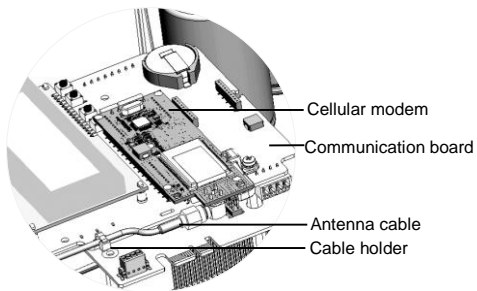

Figure 10: Installed cellular modem and antenna cable
- 8 Pull the excess cable into the inverter so that the cable can be attached to the inverter communication board (see Figure 10).
- 4** Connect the antenna cable to the cellular modem and tighten manually (see Figure 10).